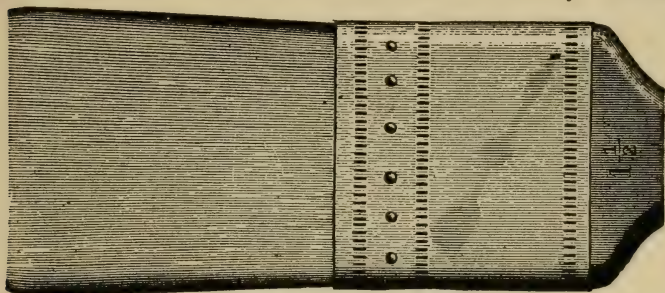

Fig. 31—Badger Hair Flowing.
metal on a flat wood head or a continuation of the metal binder into a head with wooden handle attached. They are made single and double thick, ranging in sizes by $\frac{1}{2}$ inch gradations from $\frac{1}{2}$ inch to four inches wide. Fig. 31 shows both the single and double shape.
26. a. *Ox hair flowing varnish brushes* are very highly prized by many wood finishers. They are made single and double and come in sizes and shapes same as Fig. 31, which see.
flowing varnish brush which is highly prized by coach painters and wood finishers. They are made up in same sizes and shape as shown in Fig. 31, which see.
by some wood finishers. See Fig. 31 for shape and sizes.
stiff by itself as a corrective. The wood finishing trade, especially the better class of furniture manufacturers, use it in great quantities. It is made up in same sizes and shape as shown in Fig. 31, which see.